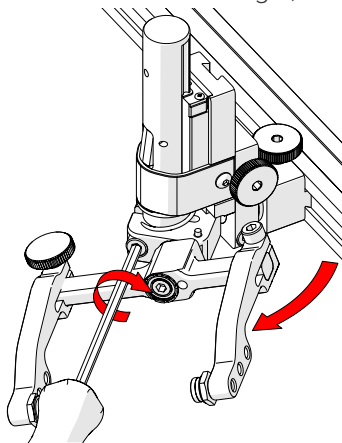

Fig. 88 - Rotate and tighten
- Tighten the transverse adjustment screw (Fig. 88).